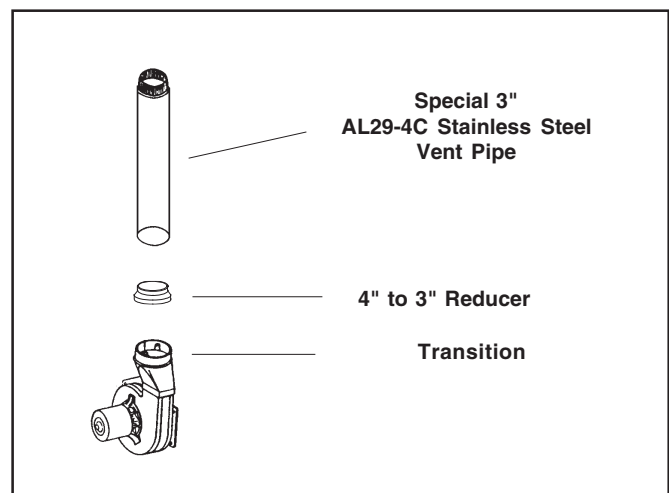

Figure 18. *RK Reducer Installation
5. Install and seal a 4" to 3" reducer to the transition. (See Figure 18.) Attach the new high temperature vent pipe to the reducer.